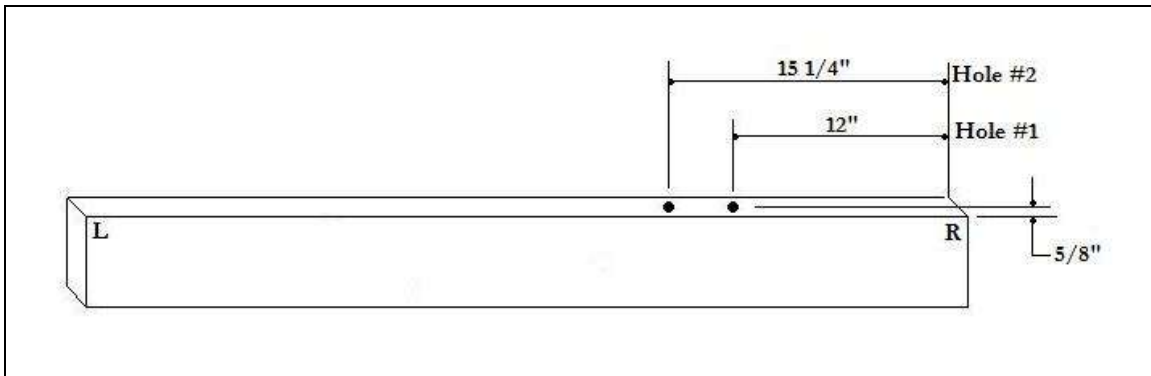

Fig. 1 – Front Treadle Pulley Support Crossmember Holes
2) Prior to reinstalling the Cross Members, drill the holes required, as shown in Figures 1 and 2. As they are not all the same size, please refer to the accompanying charts for the correct bit size to use for each hole.